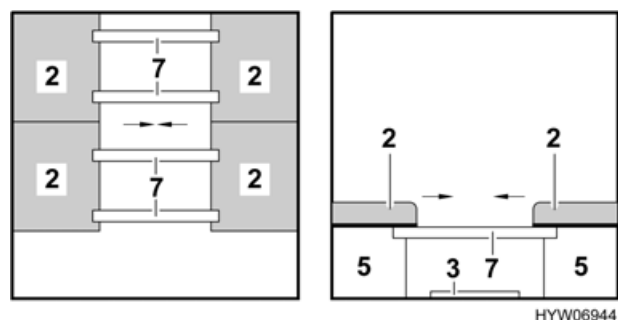

Fig. 50 During conversion
- Remove the bed rods (Fig. 50,7) from the bedding box (Fig. 50,5).
- Lift up both seat cushions (Fig. 50,2) and place the two bed rods (Fig. 50,7) in a transverse position in the pertinent grooves between both bedding boxes.